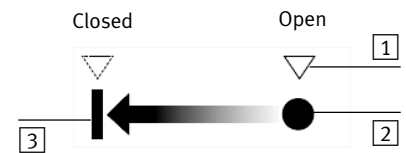

Fig. 16
1. Place the cap on the housing, aligning the red arrow (→ Fig. 16 [1]) on the transparent cap with the marking (→ Fig. 16 [2]) on the housing.
3. Turn the cap until the red arrow points to the marking (→ Fig. 16 [3]).